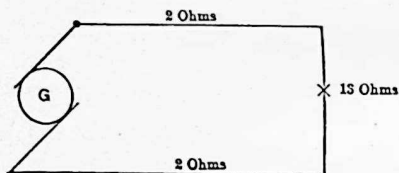

FIG. 27. An arc lamp in series with line wires across a generator.
**Problem 1.** (a) What is the total resistance of the circuit connected across the terminals of the generator in Fig. 27?